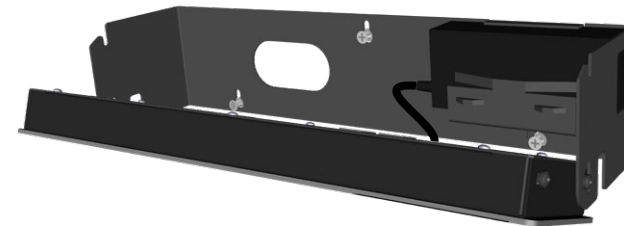

Figure 10. Mount unit / wall bracket
- Install the screws into the plastic anchors leaving enough room for the bracket to be hung on the screw heads (Figure 10). Place the bracket so the screw heads fit into the keyholes and then move the bracket down to capture the screws. Tighten the screws to secure the bracket to the wall.